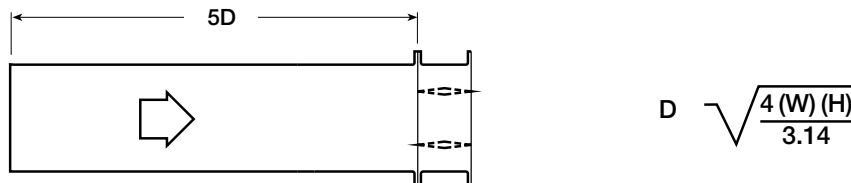

Figure 5.2
**Figure 5.2** Illustrates a ducted damper exhausting air into an open area. This configuration has a lower pressure drop than Figure 5.5 because entrance losses are minimized by a straight duct run upstream of the damper.
AMCA Figure 5.2